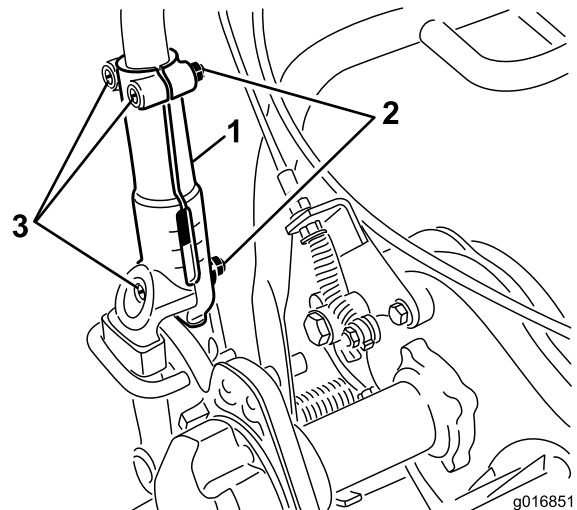

Figure 23
1. Loosen the 3 carriage bolts and nuts securing each side of the handle in the handle clamps (Figure 23).